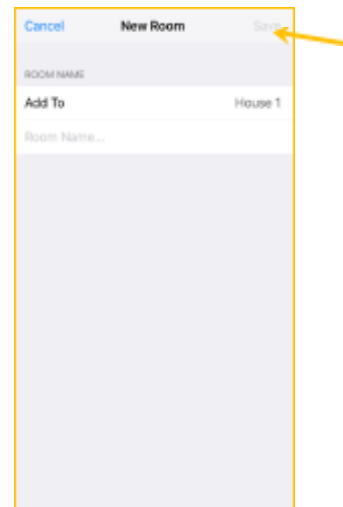

Figure 42
**10.9.8.** Enter the room name and click **Save** (Fig. 42).